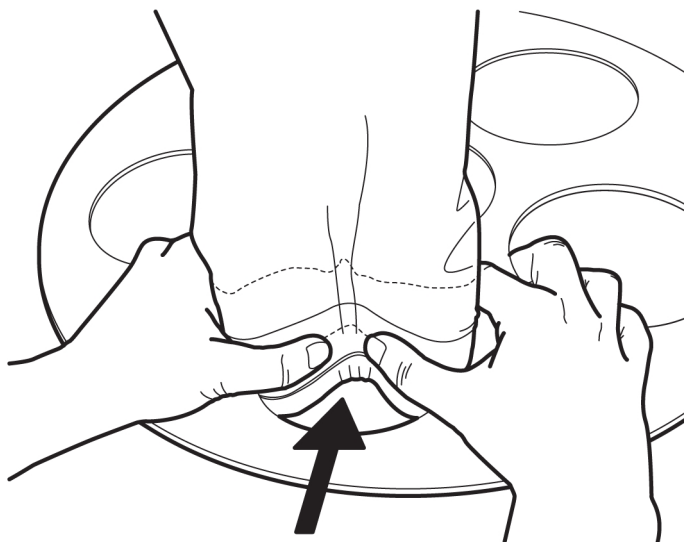

Figure 5-4. Releasing the filter
2. The filter is held in place by a quick fastener on the lower plate in the bottom of the sock filter cassette. Press the filter's outer edge towards the middle of the filter, see *Figure 5-4, page 29*.
5. Make sure that the sock filter snaps into the lower plate's hole and seals properly, see *Figure 5-4, page 29*.